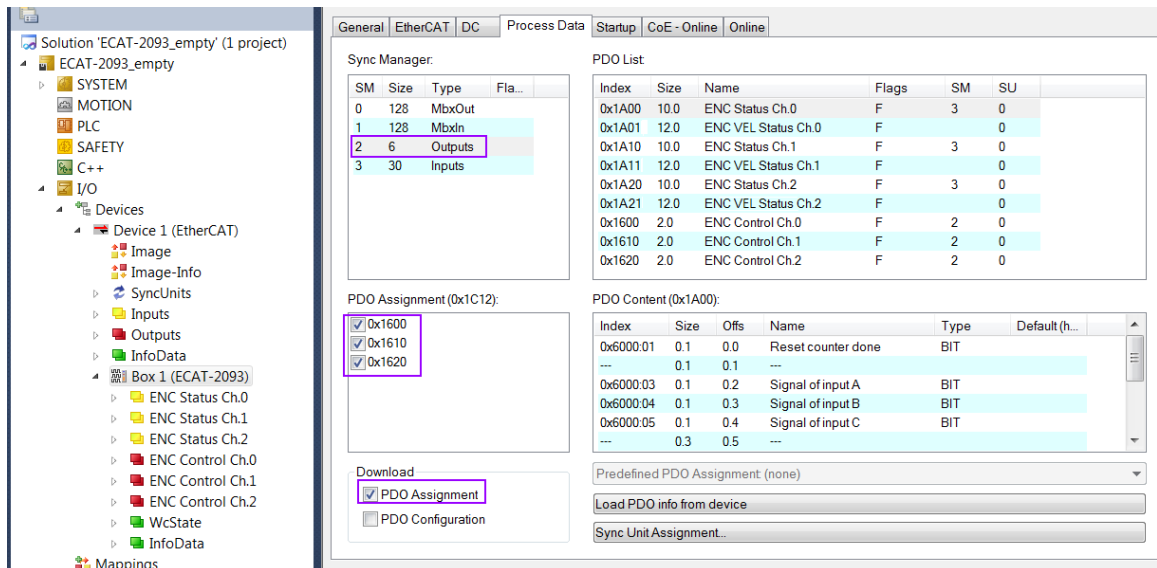

Figure 23: Predefined PDO assignment selection
2. For RxPDO selection: click in the "Sync Manager" window the "Outputs" line and in the "PDO Assignment (0x1C12)" window select for each encoder channel the required RxPDO (see Figure 23). For the ECAT-2093 only one RxPDO object for each encoder channel is available for selection. By default TwinCAT selects all the process data supported by the ECAT-2093. If the variables listed in the RxPDO are not required for the application then deselect the PDO in order to reduce the process data image size.